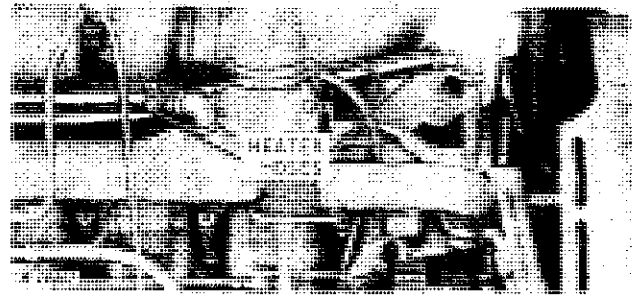

Fig. 2-Heater Hoses
2. Disconnect heater pressure and return hoses (Fig. 2).
Fasten cab lifting bracket (Group 30, Fig. 2) to the lifting straps on cab roof and attach to an overhead hoist.